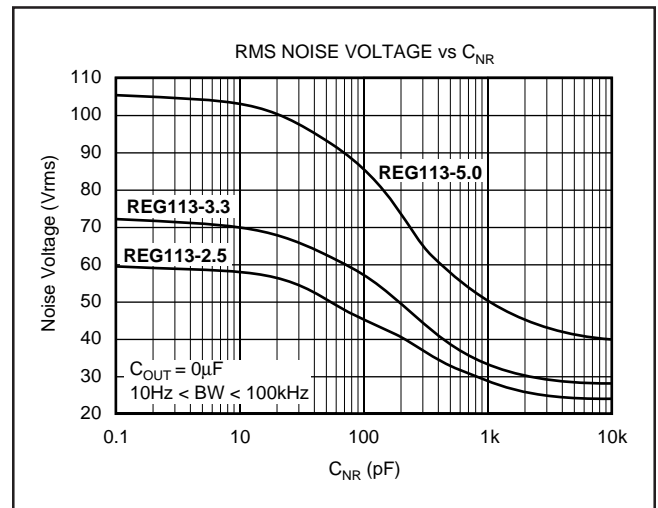
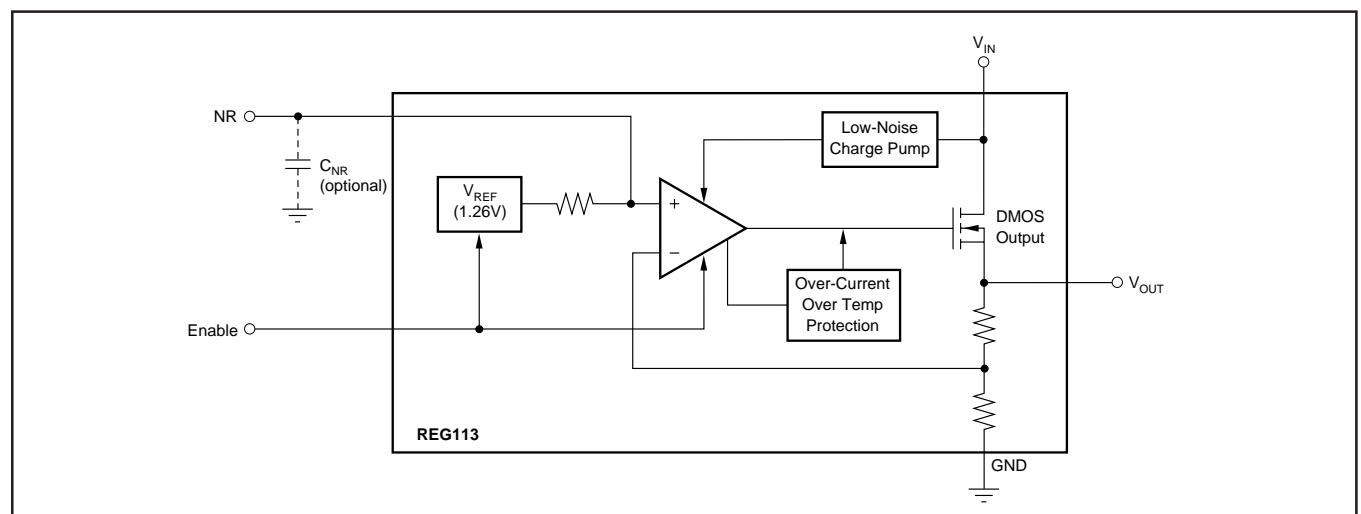

FIGURE 4. Output Noise versus Noise Reduction Capacitor.
FIGURE 3. Block Diagram.
Connecting a capacitor, C_{NR} , from the Noise Reduction (NR) pin to ground (as shown in Figure 3) forms a low-pass filter for the voltage reference. For $C_{NR} = 10\text{nF}$, the total noise in the 10Hz to 100kHz bandwidth is reduced by approximately a factor of 2.8 for $V_{OUT} = 3.3\text{V}$. This noise reduction effect is shown in Figure 4, and as *RMS Noise Voltage vs C_{NR}* in the Typical Characteristics section.